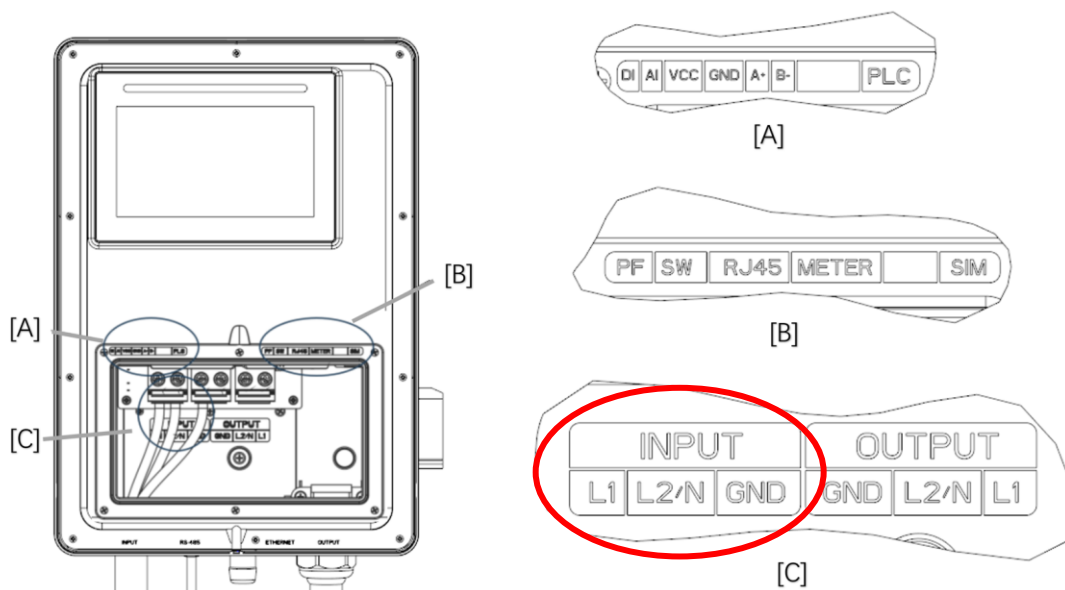

Figure 4.3 Labels Found in the Wiring Area
- 5) In the opened wiring area, connect each phase of the cable to the input terminals according to the terminal label "L1", "L2/N" and "GND" (see detailed diagram [C] in **Figure 4.3**).